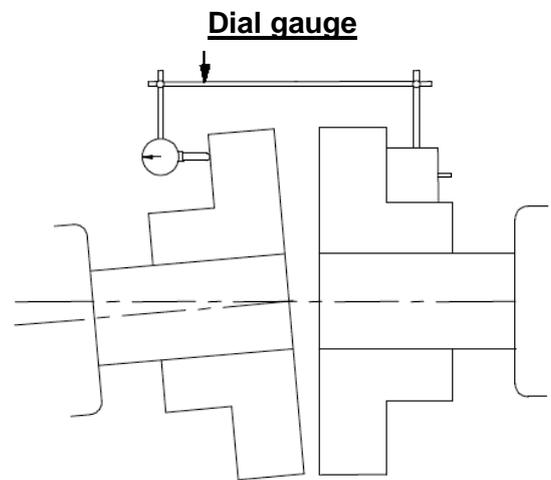

Figure 7.5: Measurement with a dial gauge
the other hub (item 2) as displayed in figure 7.5. It should hereby be placed as closely to the outer diameter as possible. With couplings REK...DHO and REK DGZ, turn the hub one full revolution and record the full deflection. With coupling REK...DGO, the dial gauge must be placed at the perimeter multiple times until the maximum value has been found. The deflection provides the indicator value for the angular misalignment in mm.